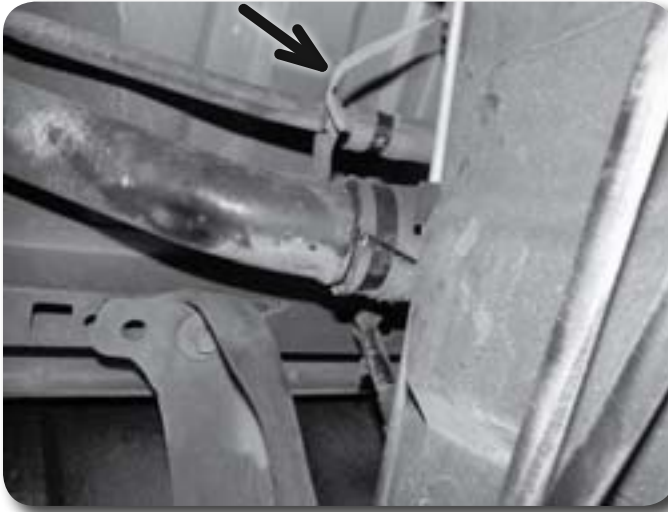

Figure 28
56. Remove the bolt retaining the fuel filler ground wire to the frame **Figure 28**. Loosen the hose clamps retaining the fuel filler and vent hoses to the filler neck and the fuel tank. Remove the hoses from the fuel tank and the filler neck.